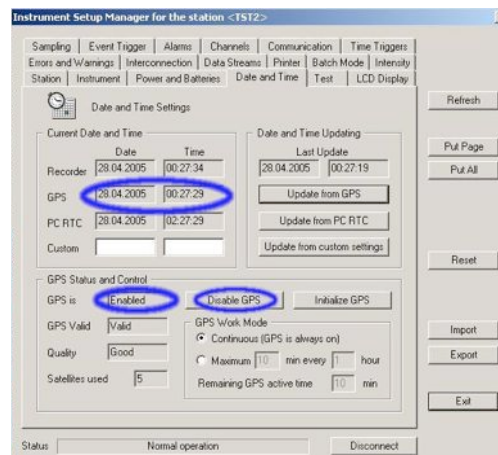

Figure 15. GPS enabling and checking
- On the “Date and Time” tab, as shown on Figure 15, GPS status should read “Enabled”, if not, press the “Enable GPS” button.